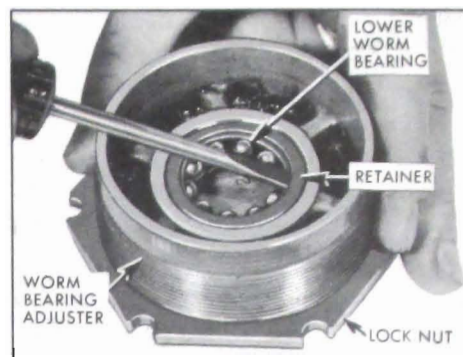

Figure 8-13—Removing Lower Worm Bearing Retainer
9. Remove lower worm bearing from adjuster by prying retainer out with a screwdriver. See Figure 8-13.